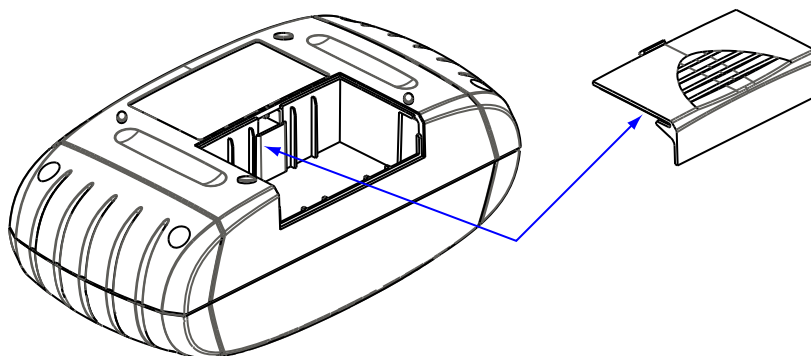

Figure 8-1 Battery cover removal
2. Pivot the battery cover up slightly, then lift it off of the unit. (Figure 8-1).